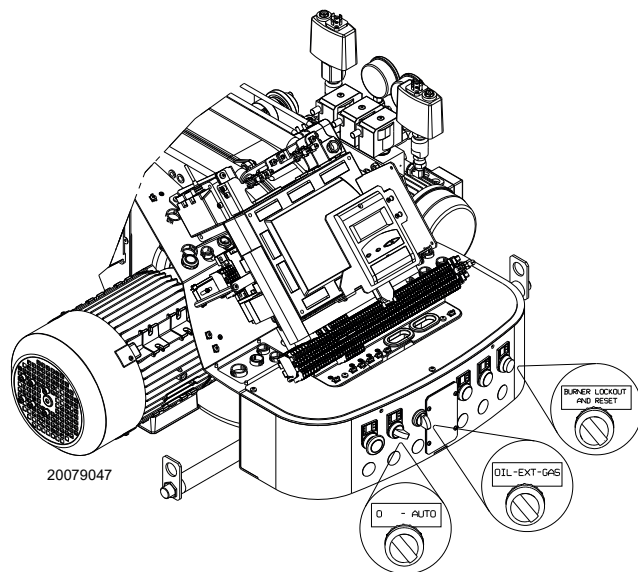

Fig. 28
Position the selector “OIL-EXT-GAS” (Fig. 28 on page 33) on “OIL” to select the light oil fuel.
Close the thermostats/pressure switches and set the switch of Fig. 28 on page 33 to “AUTO”.
- put the switch of Fig. 28 to “0” and wait until the flame control carries out the switching off phase;
Close the remote controls and position the selector (Fig. 28 on page 33) on "ON".
Put the selector (Fig. 28 on page 33) on "GAS" to select gas as the fuel.
- 1 with selector (Fig. 28 on page 33);
Positioning the selector (Fig. 28 on page 33) to "EXT" activates the remote selection of the fuel. In this position, if there is no remote selector, the display shows the priority fuel.